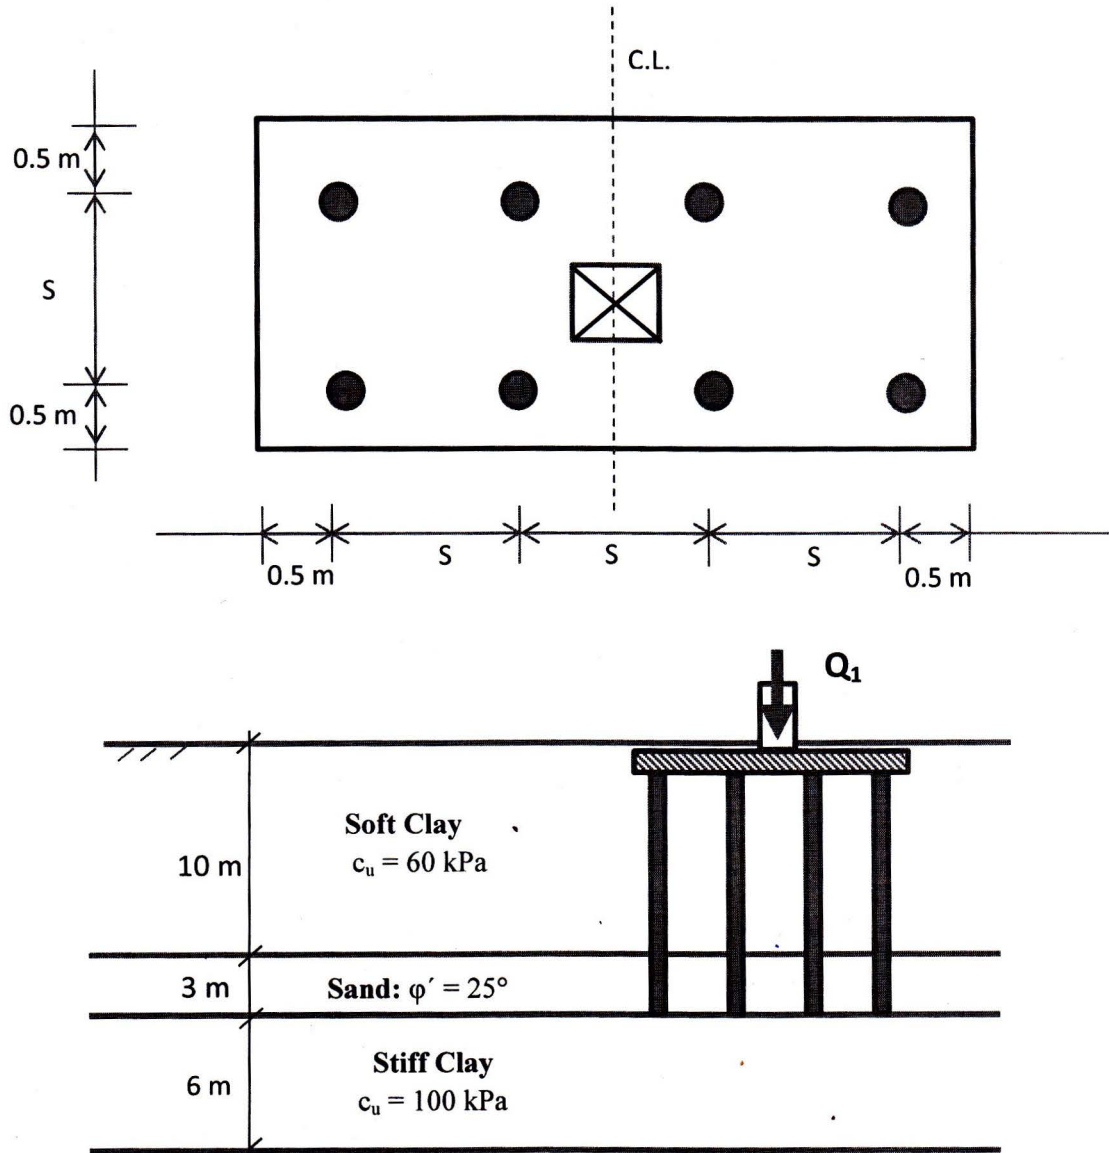

Figure 2
3. The arrangement of eight piles (in a group) and the soil profile is shown in Figure 2.